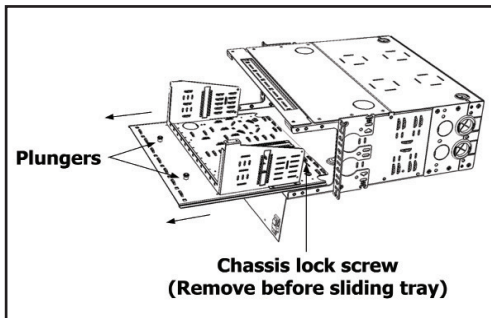

Figure 1
1. Remove the chassis lock screw (as marked in Figure 1.)